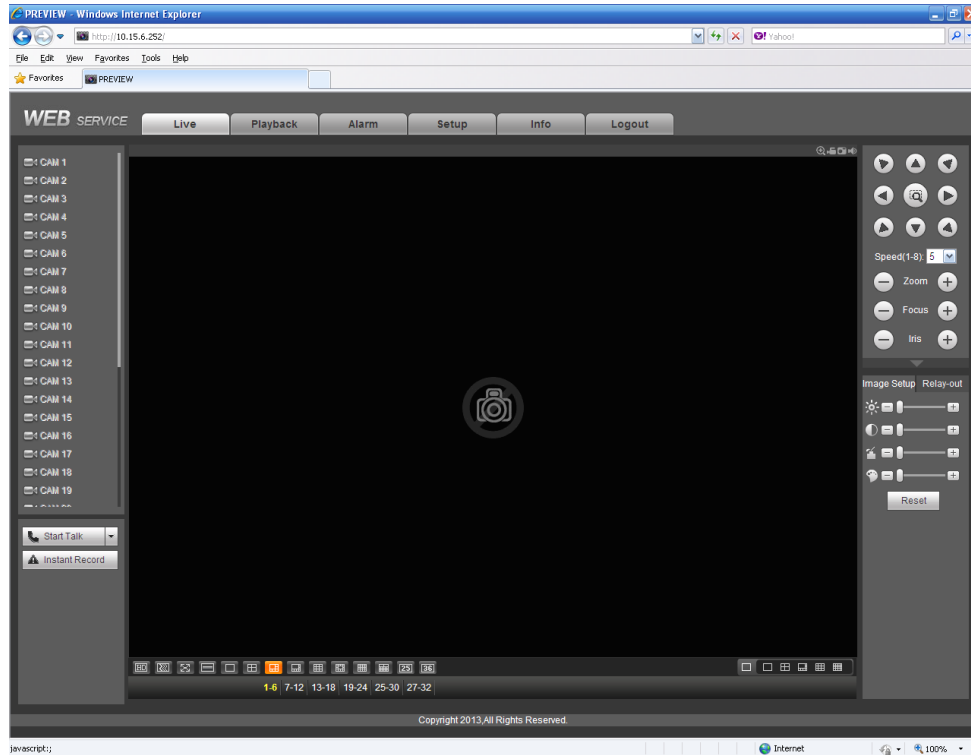

Figure 5-15
- 2) You can select different channels and different monitor modes at the bottom of the interface. See Figure 5-15.